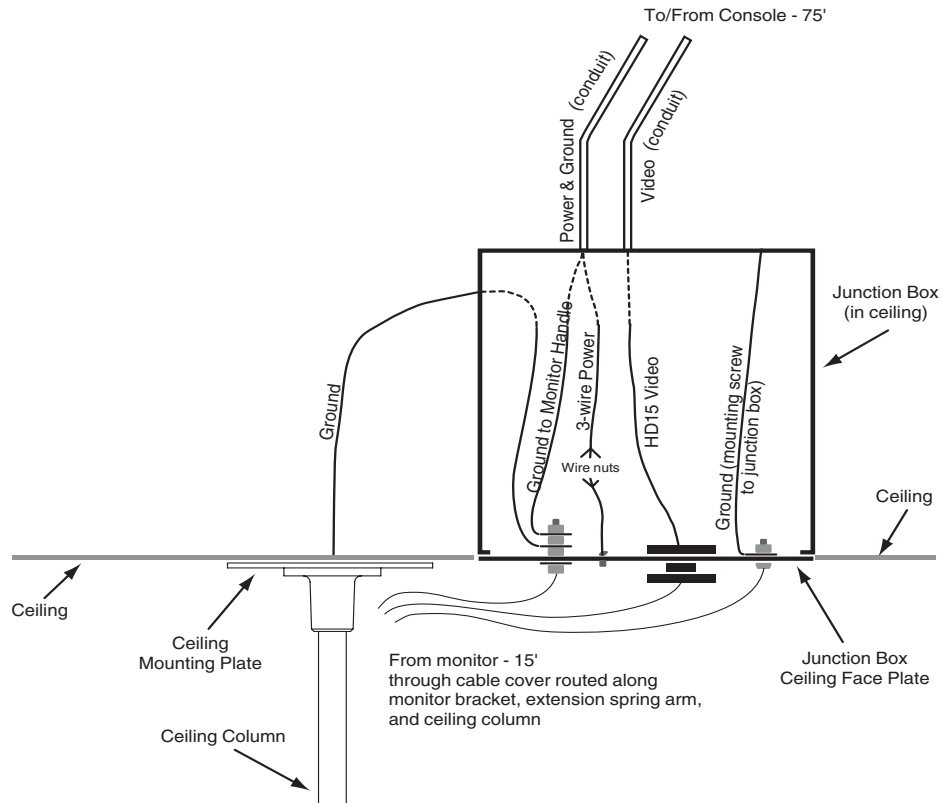
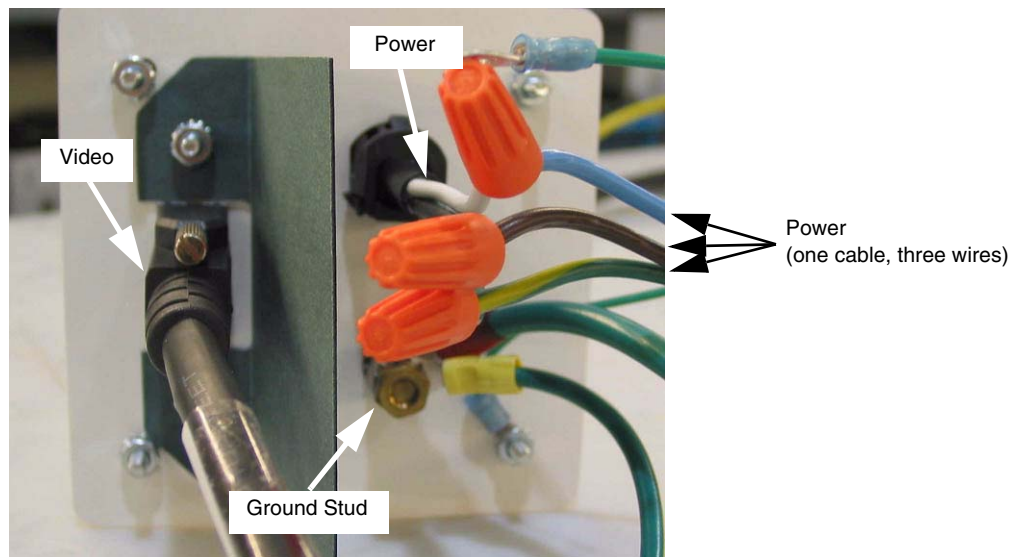

Figure 2-31 Monitor Cables at Ceiling Face Plate
Figure 2-32 Ceiling Face Plate - HP System - Back View (in junction box)
- 5.) Install and connect the power cable in junction box. (See Figure 2-31 and Figure 2-32.)